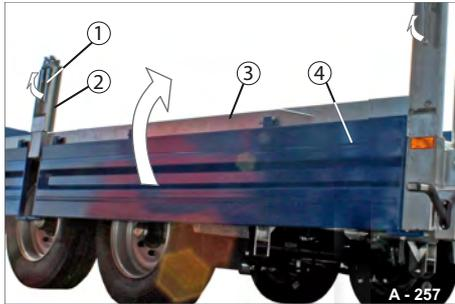

Fig. 129 Closing the platform gate
- ▶ If necessary, insert the middle post (Fig. 129/2) into the post pocket.
- ▶ Check before folding up that the platform gate fasteners (Fig. 129/1) are opened.
- ▶ If necessary, clean to remove dirt along the loading edge (Fig. 129/3) on the chassis.
- ▶ Fold the platform gate (Fig. 129/4) up with both hands.